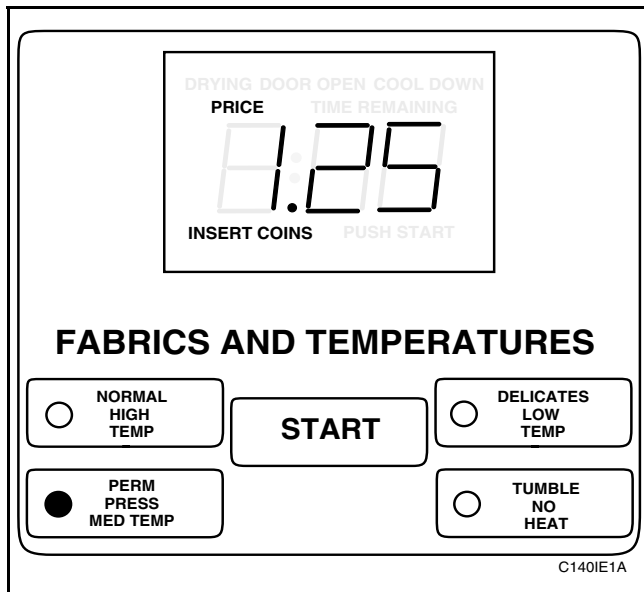
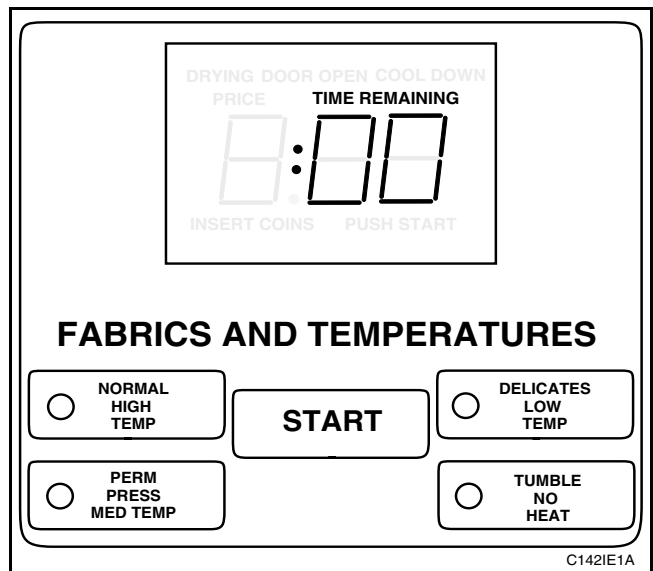

Figure 3
Figure 5
Whenever power is applied to the tumbler, the Electronic Control becomes active and lights the default cycle LED (MED TEMP). In addition, the status words PRICE and INSERT COINS are lit with the MED TEMP vend price displayed. This is referred to as the “Ready” mode, *Figure 3*.
The status word DRYING will remain lit until the COOL DOWN cycle begins. When the COOL DOWN cycle begins, the status word COOL DOWN is lit, DRYING is turned off, and the heater is turned off. The time will continue to count down until “:00” minutes is displayed, *Figure 5*. At this point the cycle is complete.
When a cycle is complete, the VFD will display the status word TIME REMAINING and “00”, until the door is opened. See *Figure 5*. When the door is opened, the VFD display will revert back to the “Ready” mode. See *Figure 3*.
This feature allows the user to return the Electronic Control back to “Ready” mode, *Figure 3*, if coins have been entered but the full vend price has not been satisfied.
After opening and closing the service door, the programmer has 4.25 minutes to begin programming. If a SELECT CYCLE pad has not been pressed in that time, the control will revert back to the “Ready” mode, *Figure 3*.
1. Be sure the tumbler is in the “Ready” mode, before continuing to step 2. See *Figure 3*. If the tumbler is in an active cycle, rapid advance through the cycle, see the Rapid Advance feature, (*Section XII*). If coins have been entered, see the Clear Vend feature (*Section XIII*).